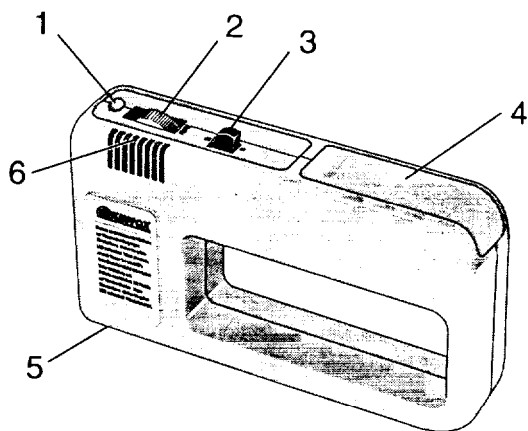

Fig. 1
Legend (see Fig. 1)
1. Open battery compartment 4 (Fig. 1).
1. Set the selector switch to "M" for metal detection or "V" for voltage detection 3 (Fig. 1).
2. Switch on the detector using adjuster wheel 2 (Fig. 1).
3. Rotate the adjuster wheel until LED 1 (Fig. 1) illuminates and the audio signal sounds (Setting M = continuous audio signal, setting V = intermittent audio signal)
4. When finished using the detector, switch it off using adjuster wheel 2 (Fig. 1) to preserve the battery.